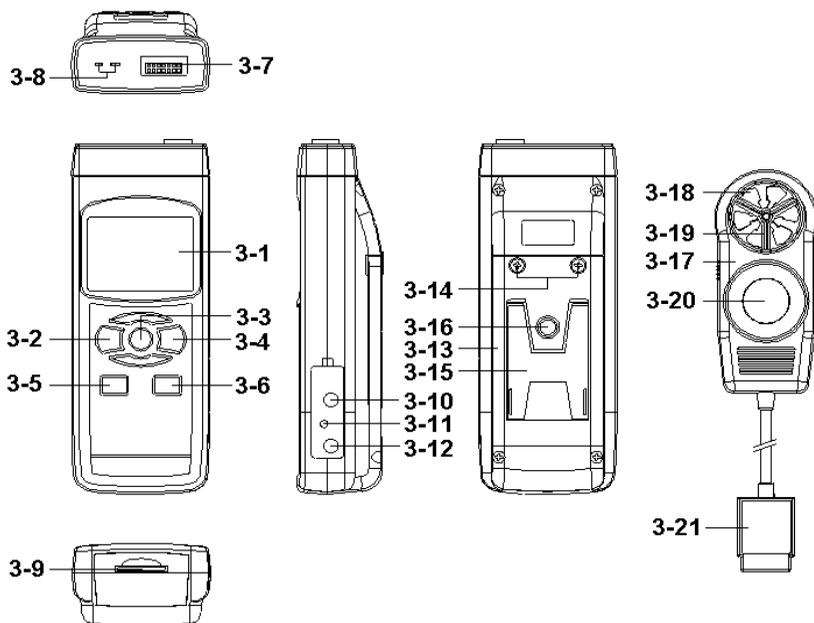

Fig. 1
(3-2, Fig. 1) momentarily.
** Pressing the " Power Button " (3-2, Fig. 1)
Pressing the " Function Button " (3-3, Fig. 1)
just release the " Function Button " (3-3, Fig. 1), the
- 2) Plug the " Probe Plug " (3-21, Fig. 1) into the " Probe Input Socket " (3-7, Fig. 1).
Power on the meter by pressing the " Power Button " (3-2, Fig. 1) once,
- 3) Hold the Probe by hand and let the " Anemometer vane " (3-18, Fig. 1) face against the measuring air flow source, then the Display (3-1, Fig. 1) will show air velocity directly. At the same time, the lower Display will show the air temperature value.
Plug the " Probe Plug " (3-21, Fig. 1) into the " Probe Input Socket " (3-7, Fig. 1).
- 2) Power on the meter by pressing the " Power Button " (3-2, Fig. 1), the LCD shows the unit " %RH " & " °C or °F " at the same time and measured value will show on the display (upper display is Humidity value, the lower display is the temperature value) .
- 2) Plug the Thermocouple Temp. Probe (Type K Temp. probe or Type J Temp. probe, optional) into " Type K/J Probe Input Socket " (3-8, Fig. 1)
- 3) Hold the Probe by hand and let the " Light sensor " (3-20, Fig. 1) face against the measurement light source, the Display (3-1, Fig. 1) will show the light measurement value.
During the Light measurement, blank the Light Sensor (3-20, Fig. 1) completely, if the Display is not show zero value, press the " Logger Button " (3-6, Fig. 1) > 3 seconds, Display will show the zero value.
Plug the " Sound adapter plug " into the " Probe Input Socket " (3-7, Fig. 1).
- 3) Power on the meter by pressing the " Power Button " (3-2, Fig. 1). The meter's Display will show the text " Sound " once a while, then return to normal screen (Display unit is dB). Now the whole system (meter + sound adapter) are ready for the sound level measurement. The display will show the measuring sound value with unit " dB ".
During the measurement, press the " Hold Button " (3-3, Fig. 1) once will hold the measured value & the LCD will display a " HOLD " symbol.
- 1) The data record function records the maximum and minimum readings. Press the " REC Button " (3-4, Fig. 1) once to start the Data Record function and there will be a " REC " symbol on the display.
- a) Press the " REC Button " (3-4, Fig. 1) once, the " REC MAX " symbol along with the maximum value will appear on the display.
If intend to delete the maximum value, just press the " Hold Button " (3-3, Fig. 1) once, then the display will show the " REC " symbol only & execute the memory function continuously.
- b) Press the " REC Button " (3-4, Fig. 1) again, the " REC MIN " symbol along with the minimum value will appear on the display.
If intend to delete the minimum value, just press the " Hold Button " (3-3, Fig. 1) once, then the display will show the " REC. " symbol only & execute the memory function continuously.
After power ON, the " LCD Backlight " will light automatically. During the measurement, press the " Backlight Button " (3-2, Fig. 1) once will turn OFF the " LCD Backlight " .